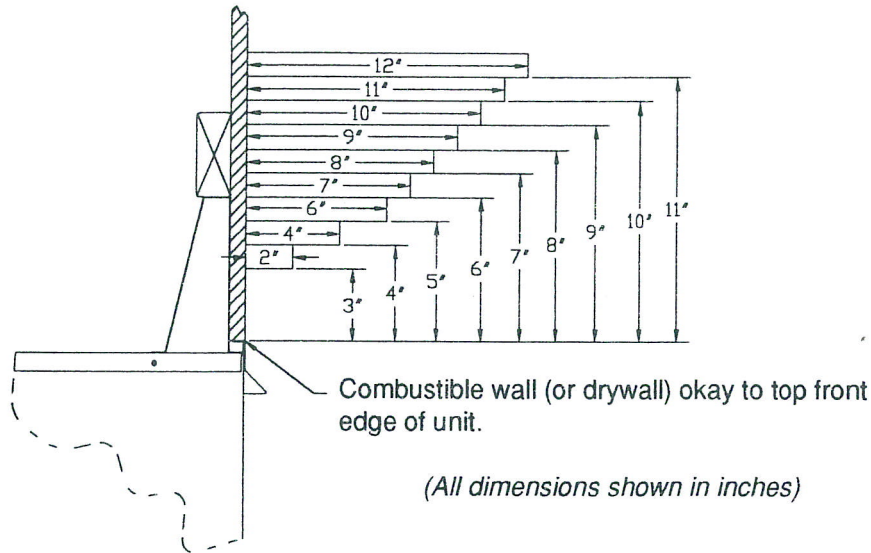

Figure 4: Mantel Clearances
**COMBUSTIBLE CLEARANCES:** The appliance is a zero clearance fireplace with spacers defining the minimum space to the sheet metal outer shell. Combustibles may be placed up against these spacers. Do NOT place combustibles closer than allowed by the spacers or a fire hazard may exist. The spacers for the sides and rear of the appliance are 1/2" and the top spacers are 6 1/2". On the front top edge in front of the top framing spacers, a combustible wall (or drywall) may be brought up to the top edge of the unit (see Figure 4).
**MANTEL CLEARANCES:** A canopy comes with some units. It MUST be installed. If a combustible mantel is installed, it must meet the clearance requirements detailed in Figure 4.